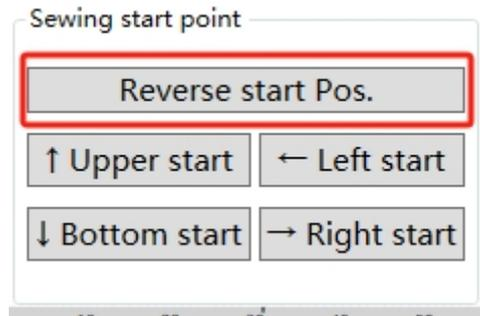

Fig. 5.3.4b Reverse Button at the Sewing Start Point
② Click the reverse button of the sewing start point, and the green arrow is the sewing start direction of the graphic, as shown in Fig. 5.3.4b and 5.3.4c.